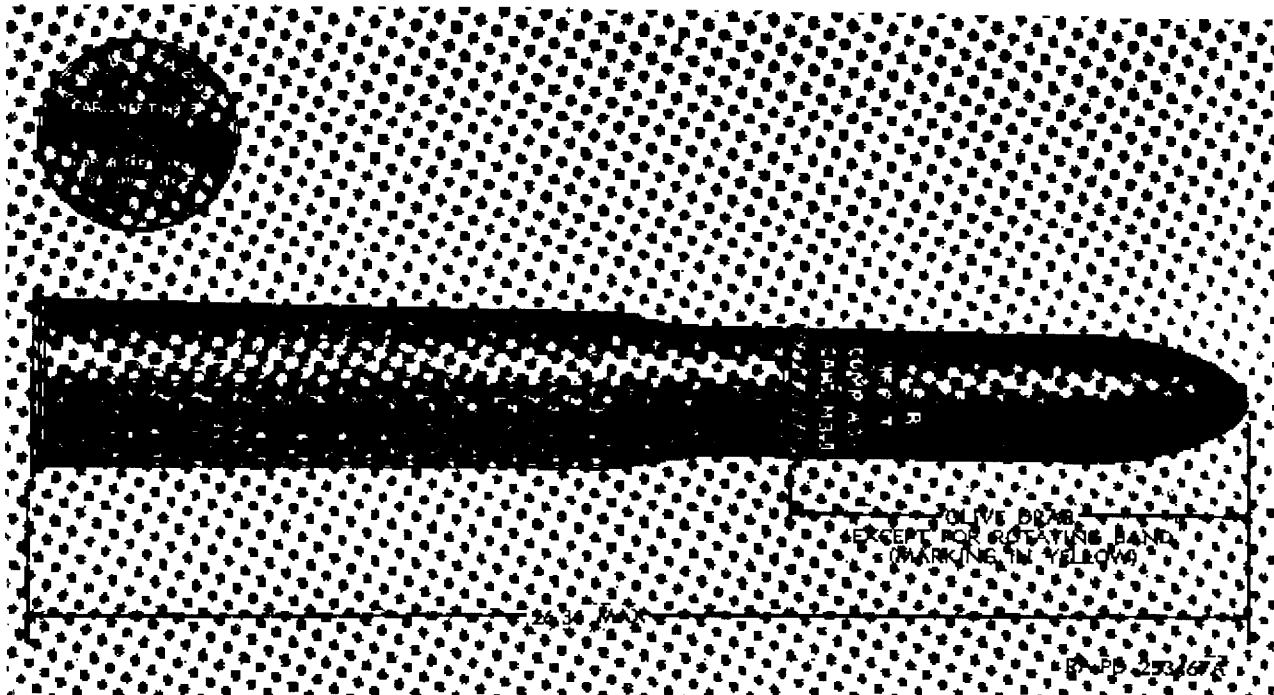

Figure 11. Cartridge, 75 millimeter: HEP-T, M349, w/fuze, BD, M91A1.
*a. General.* This cartridge (fig. 11) is used against armored targets. The plastic-lined cartridge case M31A1 is crimped to the HEP-T projectile by means of four equally spaced ball-point crimps. The projectile has a blunt nose and is internally threaded in the base to receive the BD fuze M91A1 with integral tracer.